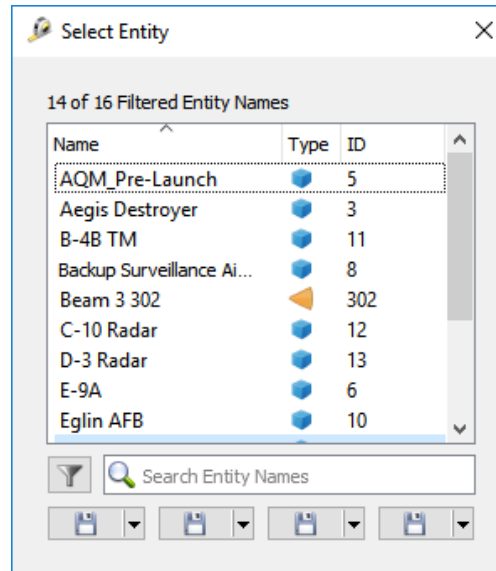

Figure 5.60: Select Entity Dialog
- Click the  button next to **Begin Entity Name** or **End Entity Name** text box to open the **Select Entity** dialog, shown in Figure 5.60.
You can select an entity via the **Select Entity** dialog. Click the  button on the Range Tool toolbar to open the **Select Entity** dialog shown in Figure 5.60